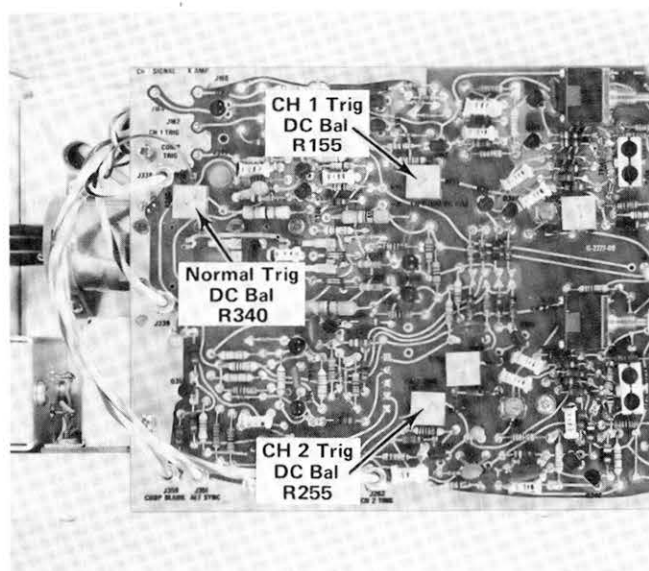

Fig. 5-27. Location of Trigger DC Level adjustments.
e. ADJUST—Normal Trigger DC Balance adjustment, R340, (see Fig. 5-27) to obtain a stable display on both the + and – slopes of the displayed waveform.
h. ADJUST—CH 1 Trigger DC Balance adjustment, R155, (see Fig. 5-27) to obtain a stable display on both the + and – slopes of the displayed waveform.
n. ADJUST—CH 2 Trigger DC Balance adjustment, R255, (see Fig. 5-27) to obtain a stable display on both the + and – slopes of the displayed waveform.